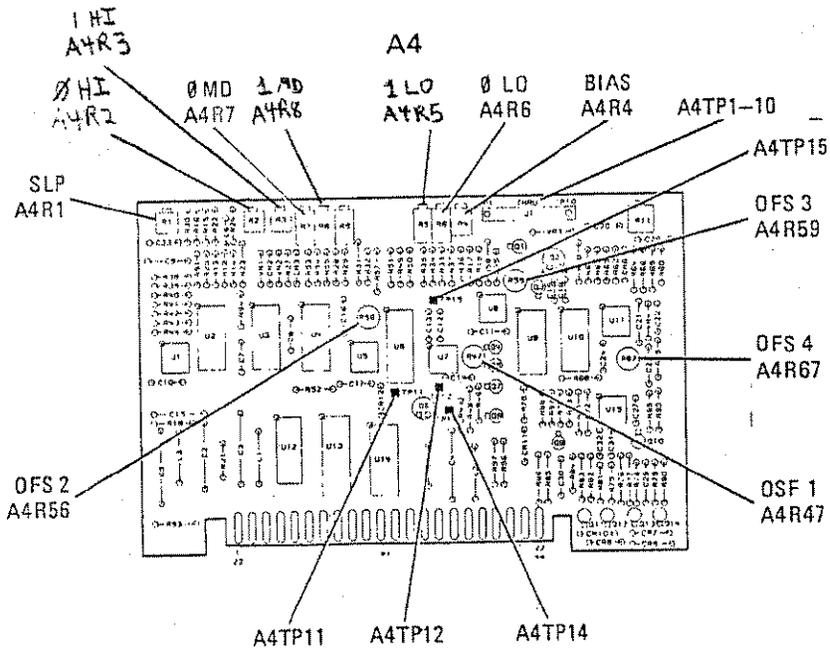

Figure 5-31. ALC Adjustments Location
2. Float the ground on the digital voltmeter and measure the voltage between A4TP12 and A4TP14. Refer to Figure 5-31 for adjustment locations. Adjust A4R47 (OFS 1) for 0.000 ± 0.001 Vdc.